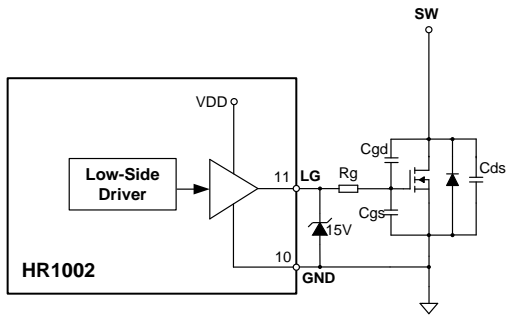

Figure 20: Low-Side Gate Driver
The low-side gate driver (LG) provides the gate driver signal for external low-side MOSFET S_1 (refer to Figure 1). The maximum voltage on LG is 16V. Under certain conditions, a large voltage spike occurs on LG due to oscillations from the long gate driver wire, the MOSFET parasitic capacitance, or the small gate driver resistor. This voltage spike is dangerous for LG, so it is recommended to place a 15V Zener diode close to LG and GND (see Figure 20).